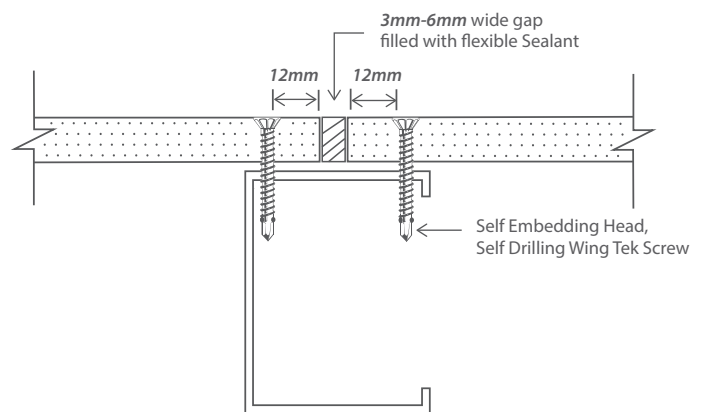

Figure 2.6: Sealant Joint
3. Jointing system which include sealant joint with **3 to 6mm** gap between boards is illustrated in **Figure 2.6**.